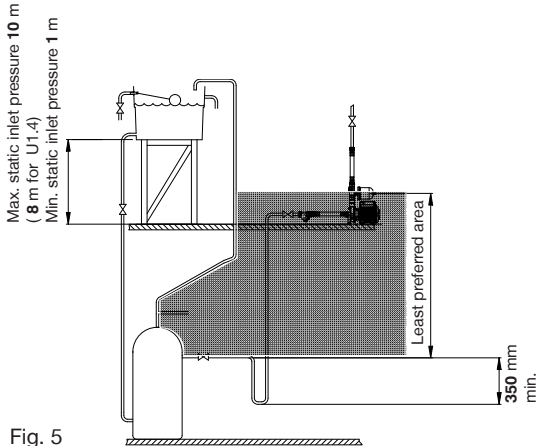

Fig. 5
2.25 **Non-Preferred Pump Location:** The pump must be located with at least 1 metre flooded suction at all times. If it is not possible to locate the pump in the preferred area due to site limitations and it is necessary to position the unit in the loft, or in a position above the secondary tapping that feeds the pump, then there is an increased risk of air locks. This risk must be eliminated. The following method will help to overcome the problem: A “U” bend or downward loop in the supply pipe to the pump of 350 mm depth before rising to the pump should ensure the cylinder vents its air up the expansion pipe, not up the pump feed (Fig. 5).